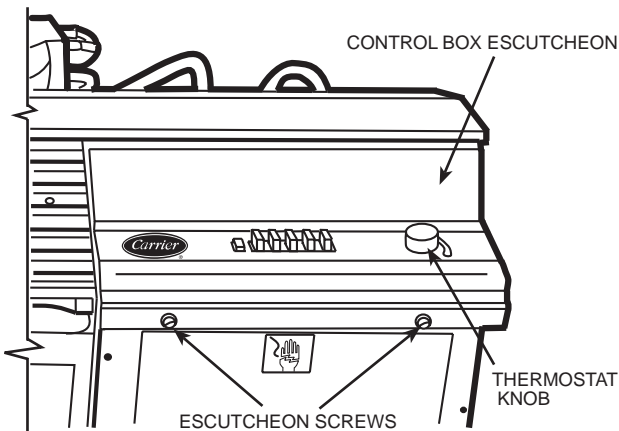
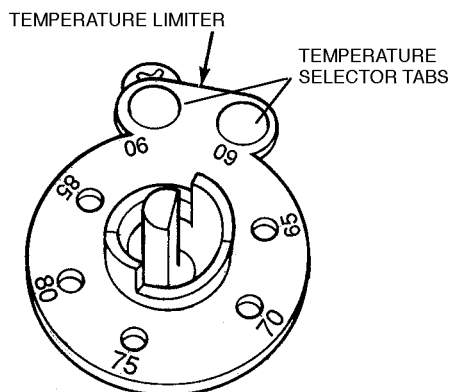

FIGURE 58 — ESCUTCHEON REMOVAL
FIGURE 59 — TEMPERATURE LIMITER
3. Remove control box escutcheon (Figure 58) to expose 2 Phillips head mounting screws. Remove the temperature limiter by gently lifting it off the thermostat knob shaft (Figure 59).
2. Remove thermostat knob and unit escutcheon. See Figure 58.